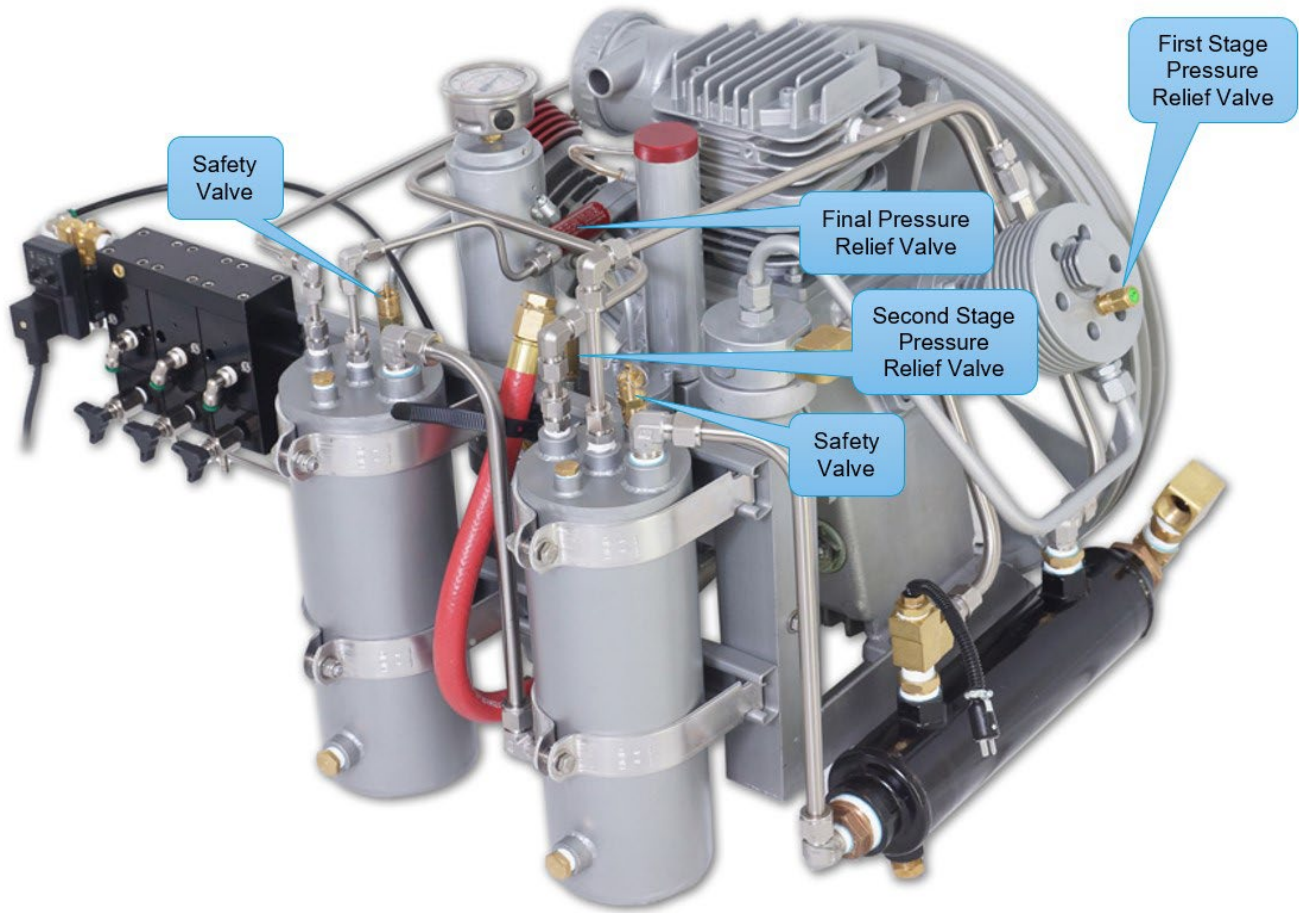

Figure 25. Safety valve locations.
Safety valves must be replaced every 10 years or 5000 hours. There are five (5) safety valves installed on the compressor (Figure 25).